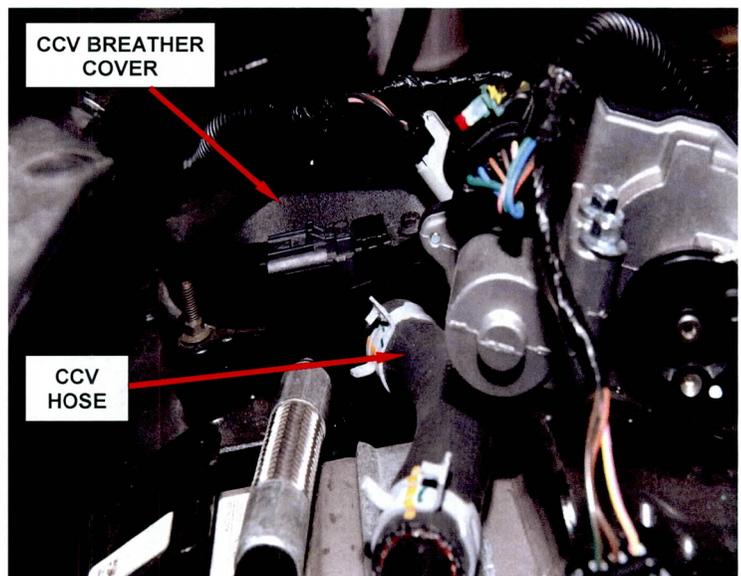

Figure 3 – CCV Hose
8. Disconnect the CCV hose at the CCV breather cover (Figure 3).